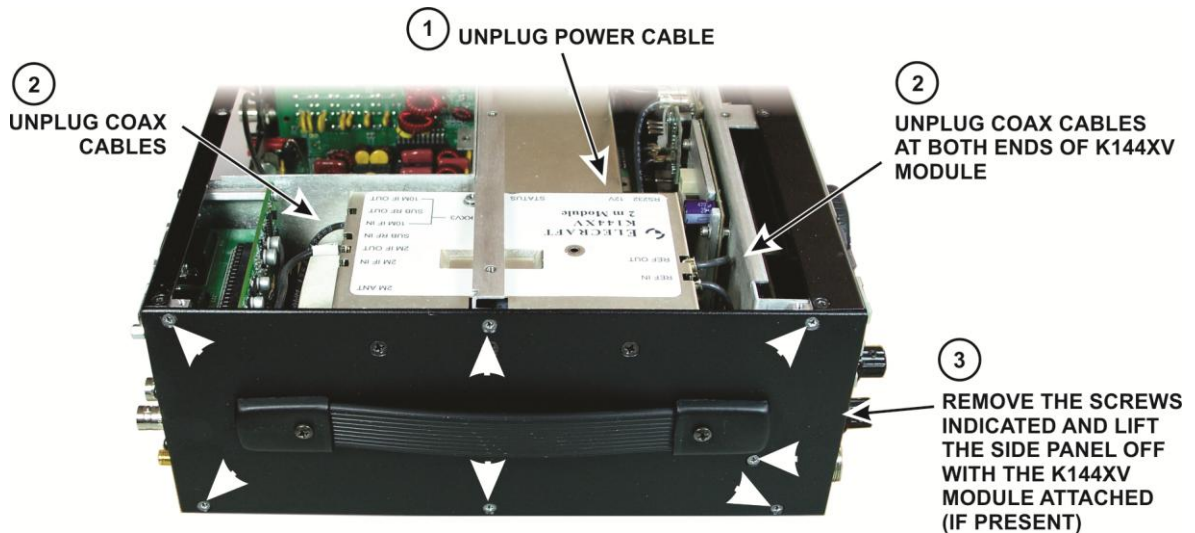

Figure 6. Removing the Left Side Panel.
- Remove the left side panel (Figure 6). If you have the K144XV module installed, first unplug the remaining coaxial cables and the power cable. Then remove all of the 4-40 (smaller) screws and remove the side panel with the K144XV module attached. If the KXV3 sub-receiver is installed, carefully slide the K144XV module out under the stiffener bar. You may need to lift the end of the stiffener bar slightly to pass the K144XV module under it, but take care not to bend it.
Replace the side panel, using the 4-40, 3/16" (4.8mm) black flat head screws you removed earlier (Figure 6, pg 4). If the K144XV option is installed, be sure you do not trap any of the coax TMP cables under the K144XV module. Replace all seven screws including the screw under the front end of the handle.